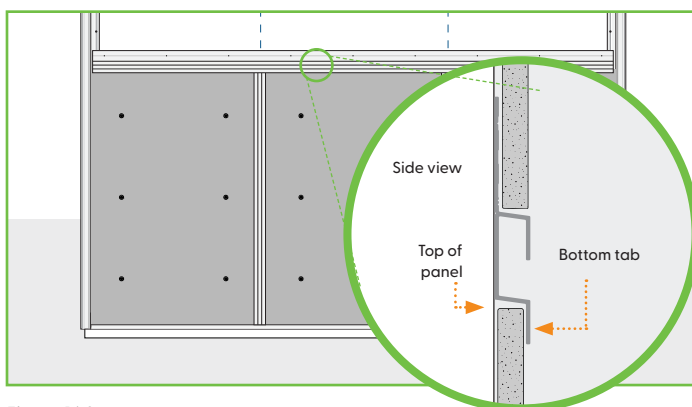

Figure 16.3
6. Install the EZ.5 midfield horizontal by overlapping the bottom tab over top of the top edge of the panel and the ends of the vertical trims. Make sure trim is level and fasten. (Figure 16.3) (See Fastening Info).